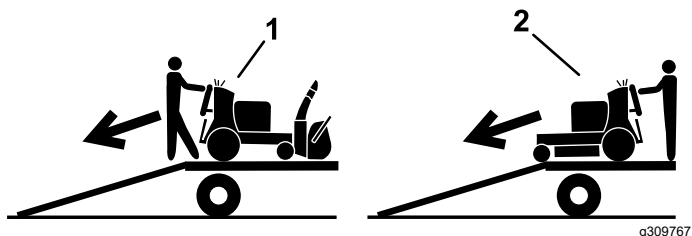

Figure 27
2. Unload the machine from the trailer with the heavy end up the ramp (Figure 27).